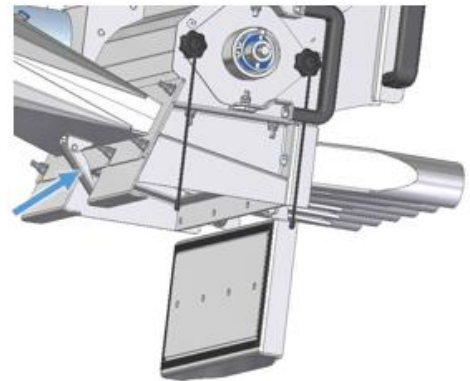

Figure 45
- The fastener at the bottom of the metering unit is opened, causing the calibration flap to fold down (see Figure 45).